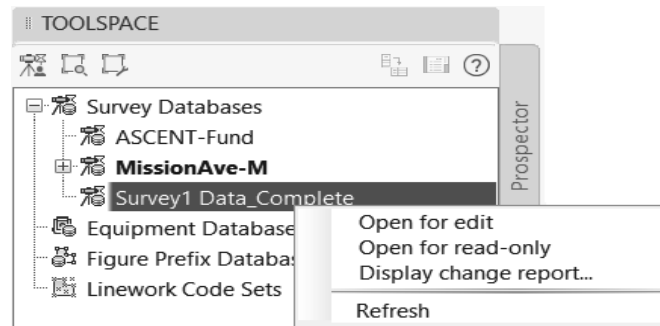

Figure 2–31
2. Select the survey database that you want to open, right-click, and select **Open for edit** or **Open for read-only**, depending on your requirements, as shown in Figure 2–31. Contrary to most Civil 3D functions, where double-clicking invokes an edit function, double-clicking on a survey database will open it as read-only.